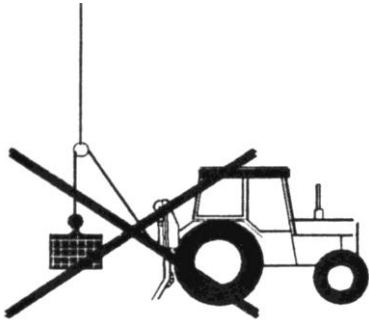

Figure 3
26. When towing observe the maximum allowed angle of 30° (Figure 3).